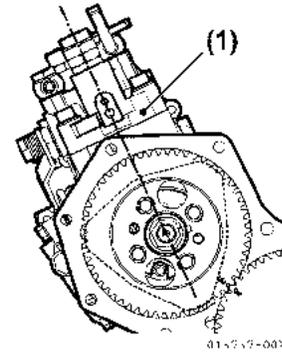
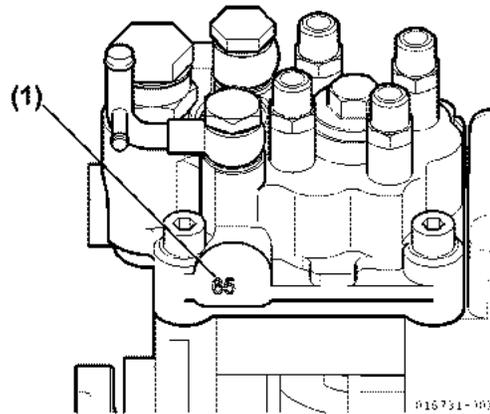

Figure 6-52
Figure 6-53
1. Locate and record the fuel injection pump timing index number (Figure 6-53, (1)) stamped into the boss on the engine side of the fuel injection pump housing (Figure 6-52, (1)).